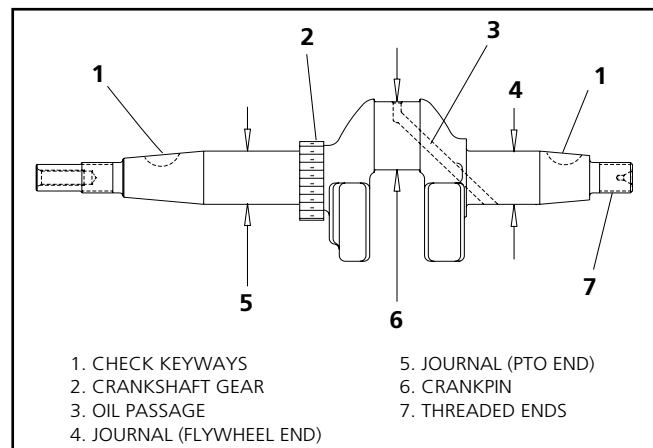

Figure 11-5. Points to Check on Crankshaft
1. Inspect keyways in crankshaft (see Figure 11-5). Make sure they are not worn or spread apart. Remove burrs from edges of keyways, to prevent scratching the bearing.